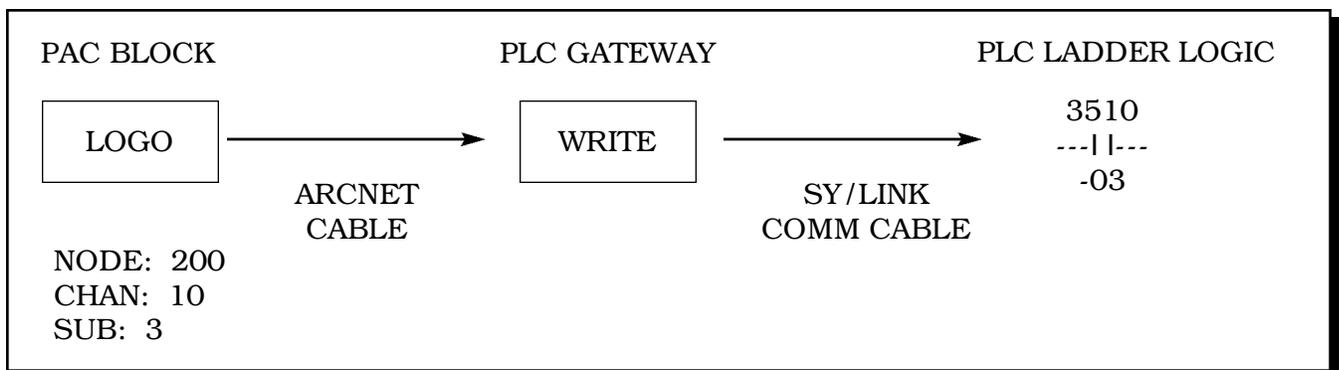

Figure 1. PAC to PLC Logic Output
**Logic Outputs (LOGO)** from a PAC schematic to a PLC is illustrated in Figure 1.